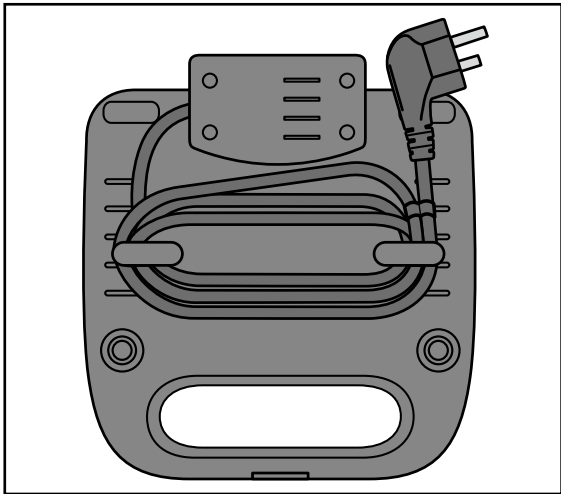

Fig. 1
- Wrap the power cable around the cable spool **18** of the cable retainer on the rear of the appliance. Fix the cable in place using the cable clip (see fig. 1):